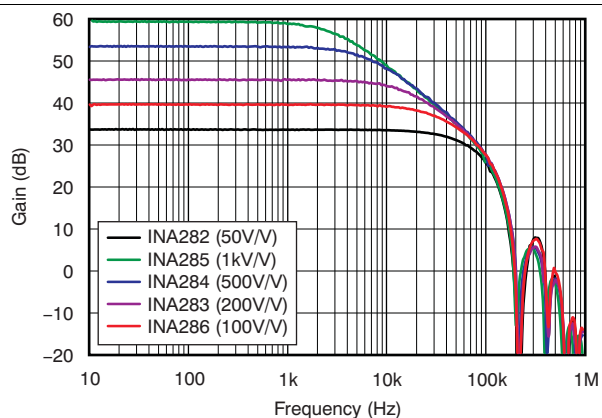
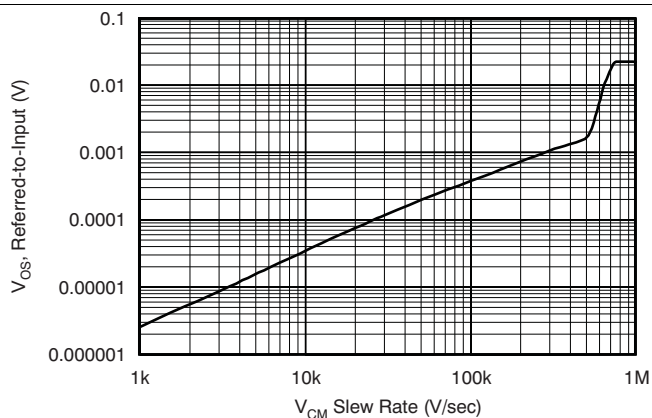
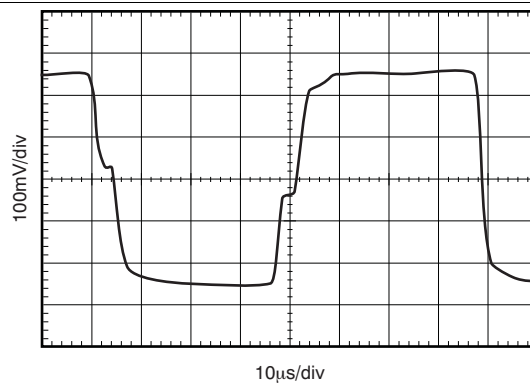

Figure 1. Gain vs Frequency
Figure 4. INA282 Common-Mode Slew Rate Induced Offset
Figure 28. 500-mV Step Response
(7) See typical characteristic graph Figure 1 and the Effective Bandwidth section.
The extremely high dc CMRR of the INA28x family results from the switched-capacitor input structure. Because of this architecture, the INA28x exhibits discrete time-system behaviors, as illustrated in the *Gain vs Frequency* curve of Figure 1 and the *Step Response* curves of Figure 21 through Figure 28. The response to a step input depends in part on the phase of the internal INA28x clock when the input step occurs. It is possible to overload the input amplifier with a rapid change in input common-mode voltage (see Figure 4). Errors as a result of common-mode voltage steps or overload situations typically disappear within 15  $\mu$ s after the disturbance is removed.